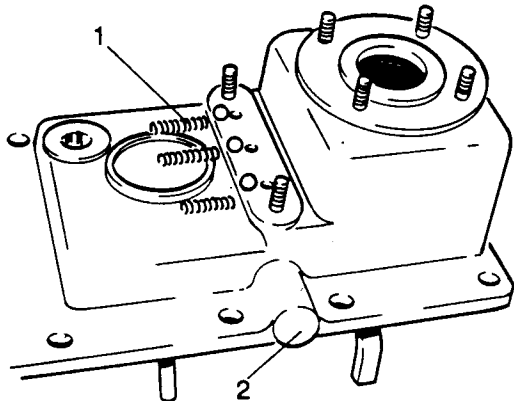

Fig H1.117
- (3) Refer to Fig H1.117. Remove the three springs and balls (1) that fix the position of the selector shafts.
- (4) Remove the plug (2) from the gallery where the rollers are housed.